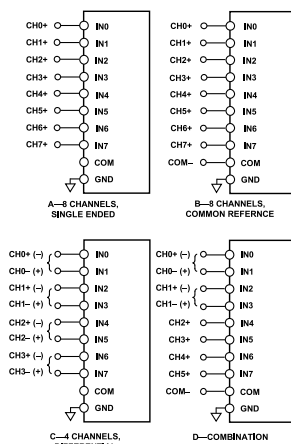

Figure 32. Multiplexed Analog Input Configurations
Figure 32 shows the different methods for configuring the analog inputs with the configuration register, CFG[12:10]. Refer to the Configuration Register, CFG section for more details.
- **Figure 32 (A)**, single-ended referenced to system ground, CFG[12:10] = 111₂. In this configuration, all inputs (IN[7:0]) have a range of GND to V_{REF} .
- **Figure 32 (B)**, bipolar differential with a common reference point, COM = $V_{REF}/2$, CFG[12:10] = 010₂. Unipolar differential with COM connected to a ground sense; CFG[12:10] = 110₂. In this configuration, all inputs IN[7:0] have a range of GND to V_{REF} .
- **Figure 32 (C)**, bipolar differential pairs with the negative input channel referenced to $V_{REF}/2$, CFG[12:10] = 00X₂. Unipolar differential pairs with the negative input channel referenced to a ground sense, CFG[12:10] = 10X₂. In these configurations, the positive input channels have the range of GND to V_{REF} . The negative input channels are a sense referred to $V_{REF}/2$ for bipolar pairs, or GND for unipolar pairs. The positive channel is configured with CFG[9:7]. If CFG[9:7] is even, then IN0, IN2, IN4, and IN6 are used. If CFG[9:7] is odd, then IN1, IN3, IN5, and IN7 are used, as indicated by the channels with parentheses in Figure 32 (C). For example, for IN0/IN1 pairs with the positive channel on IN0, CFG[9:7] = 000₂. For IN4/IN5 pairs with the positive channel on IN5, CFG[9:7] = 101₂. Note that for the sequencer, detailed in the Channel Sequencer section, the positive channels are always IN0, IN2, IN4, and IN6.
- **Figure 32 (D)**, inputs configured in any of the preceding combinations (showing that the AD7682/AD7689 can be configured dynamically).